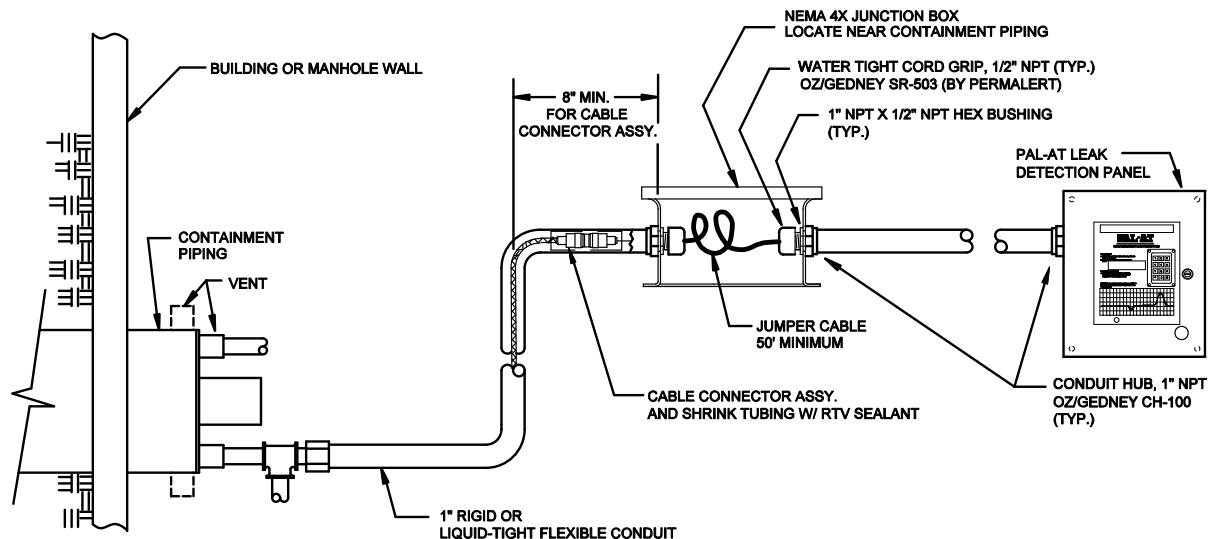

Figure 4-1
5. Where possible, jumper cable connections to sensor cable should be made within the monitored area. PermAlert recommends the use of OZ Gedney, or equal, cord grips installed as shown in figure 4-1. Cord grips must clamp only jumper cable or TFH cable. The plastic outer braid on TFH cable must be pulled back so the cord grip is located on the smooth outer jacket.